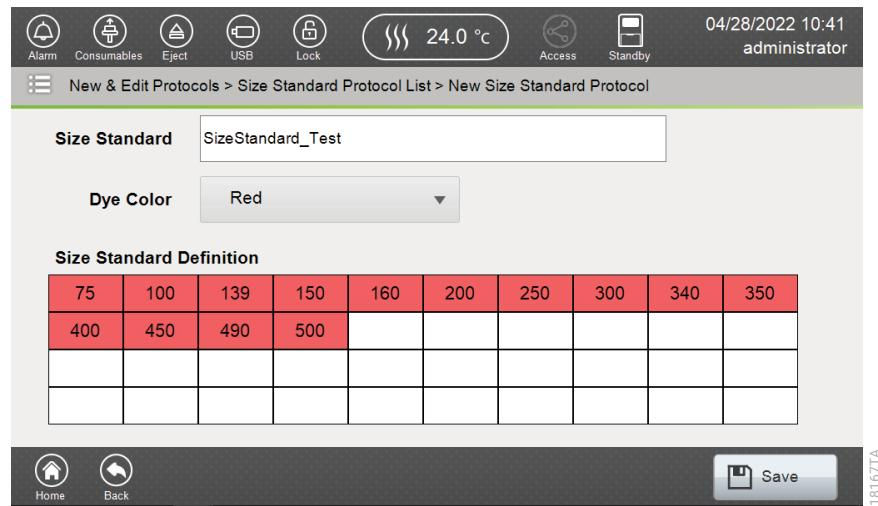

Figure 139. 'Size Standard Definition' screen.
6. Confirm the sizes of the standards displayed on the 'New Size Standard Protocol' screen and select **Save** (Figure 139).